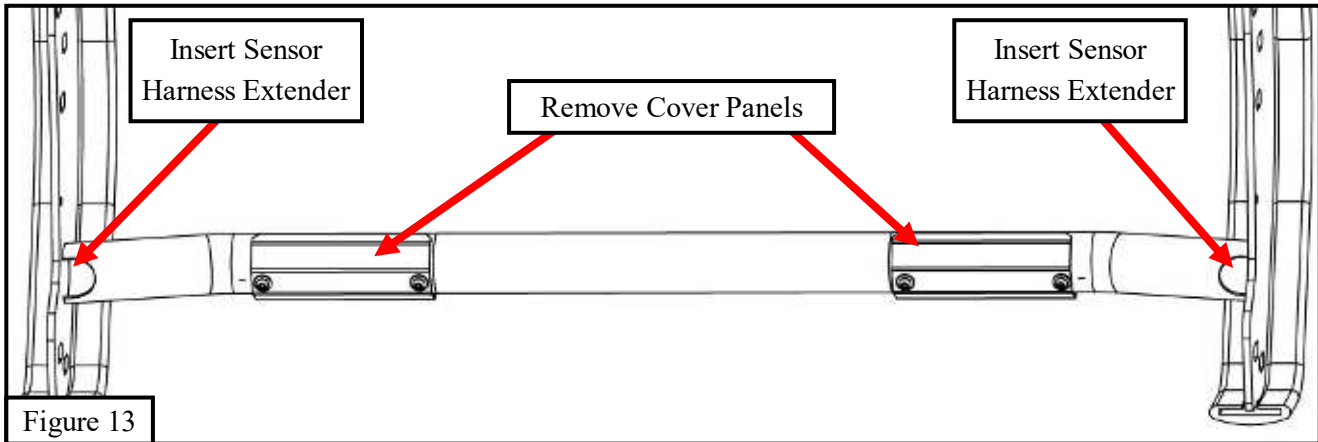
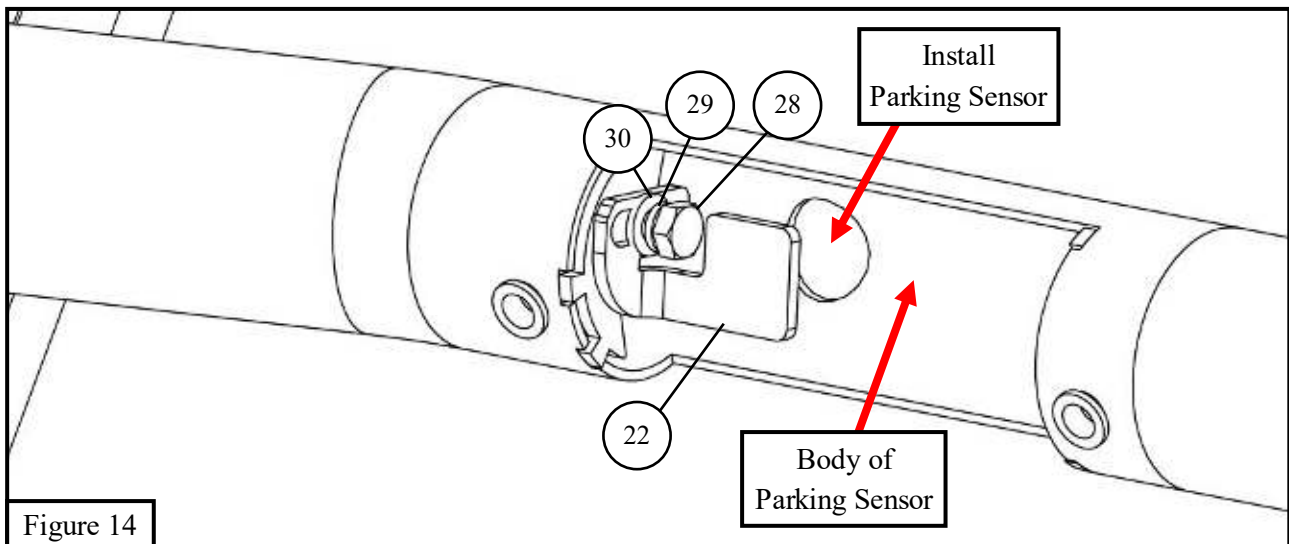

Figure 13
Figure 14
23. Remove the (2) center parking sensors from the front bumper.
24. Remove the cover panels and rubber hole plugs from the grille guard lower tube. See **Figure 13**.
25. Insert (1) sensor harness extender (**item 21**) into the lower grille guard tube. Place one end of the harness extender in the space behind the cover panel. See **Figure 13**.
26. Place (1) piece of double sided tape (**item 35**) on the back of each parking sensor.
27. Install the parking sensors using the M6 hardware (**items 28-30**) and the sensor L-brackets (**items 22-23**). See **Figure 14**.